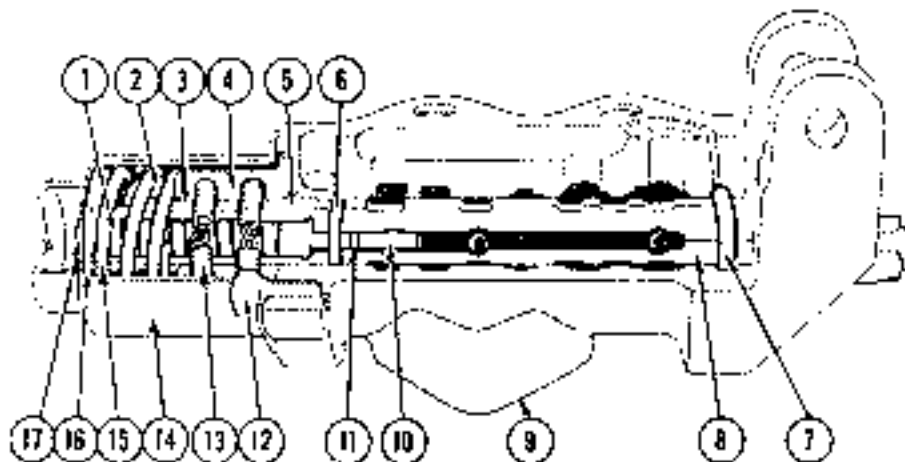

Fig. MH34—Cutaway view of the Pony hydraulic lift control valve.
Procedure for disassembling the pressure control valve and is outlined after an explanation of the unit and reference to Fig. MH34. The unit should be washed and thoroughly examined for cracks and excessive wear. When reassembling, renew all seals and gaskets and any other questionable parts.
When re-installing control valve to the cylinder, make certain that the two "O" ring gaskets are properly located between the gasket surfaces of the control valve and cylinder. When re-installing the hydraulic face pad to the control valve, make certain that the "O" ring gasket (2, Fig. MH34) is properly located and that the pad gasket does not cover relief port (1). Tighten the four round head pad attaching screws to a torque of 7-9 foot pounds only. Remove head end fill reservoir up to half; start engine and operate power lift several times; then fill reservoir up to battle mark, and replace head
72. LOSS OF LIFTING POWER. Indicates that hydraulic lines pad gasket on control valve is covering relief port (1—Fig. MH34) or the "O" ring gaskets which are located between the control valve and cylinder, hydraulic lines pad and control valve, hydraulic lines pad and reservoir, and/or reservoir and pump, are improperly seated. Renew gasket between pad and control valve and install new "O" ring gaskets.